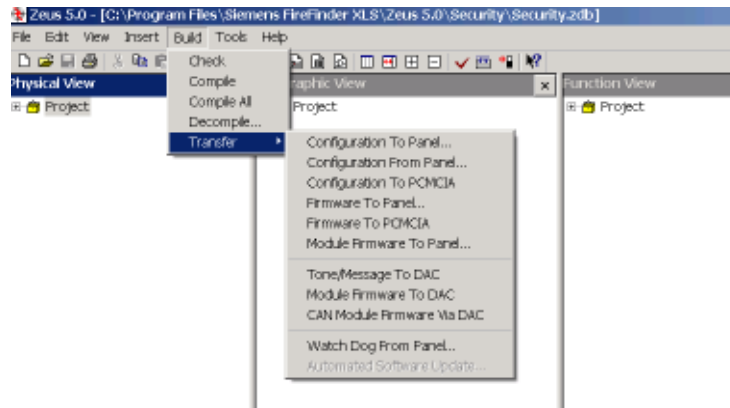

Figure 2
2. Insert the Retrofit Memory Card into the PCMCIA slot of your Zeus laptop. Log on to Zeus 8.00.0023. Then, using the Build>Transfer>Firmware To PCMCIA option, transfer the following files to the memory card (Refer to Figure 2):